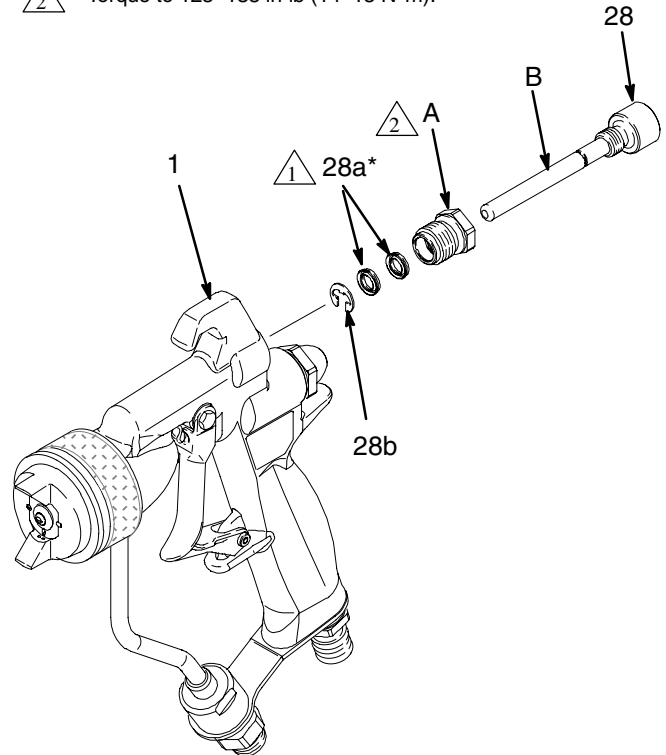

Fig. 19
2. Unscrew the fan valve packing nut (A) from the back of the gun body (1). Slide the fan valve assembly (28) out of the gun body. See Fig. 19.
3. Remove the retaining ring (28b) from the fan valve shaft (B). Carefully remove the two u-cups (28a) from the packing nut (A). Be careful not to damage the packing groove sealing surfaces.
4. Install the u-cups (28a*) in the packing nut (A) with the lips of the u-cups facing out of the packing nut, toward the gun body (1).
5. Reinstall the fan valve assembly (28) into the gun body (1). Screw the packing nut (A) into the gun body. Torque to 125–135 in-lb (14–15 N•m).
- 1 Lips face out of nut, toward gun body (1).